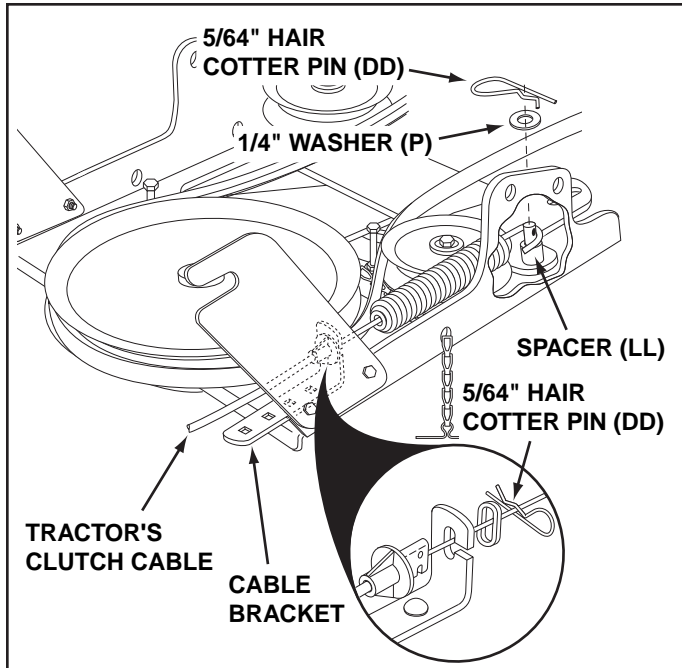

FIGURE 11
STEP 11: (SEE FIGURE 11)
- Attach the tractor's mower clutch cable to the cable bracket on the clutch/idler assembly. Secure the cable housing guide (groove down) to the cable bracket using the original collar and a 5/64" hair cotter pin (DD).
- Place a spacer (LL) on the welded pin on the idler arm. Hook the end of the clutch cable spring over the pin and secure it with a 1/4" washer (P) and a 5/64" hair cotter pin (DD).